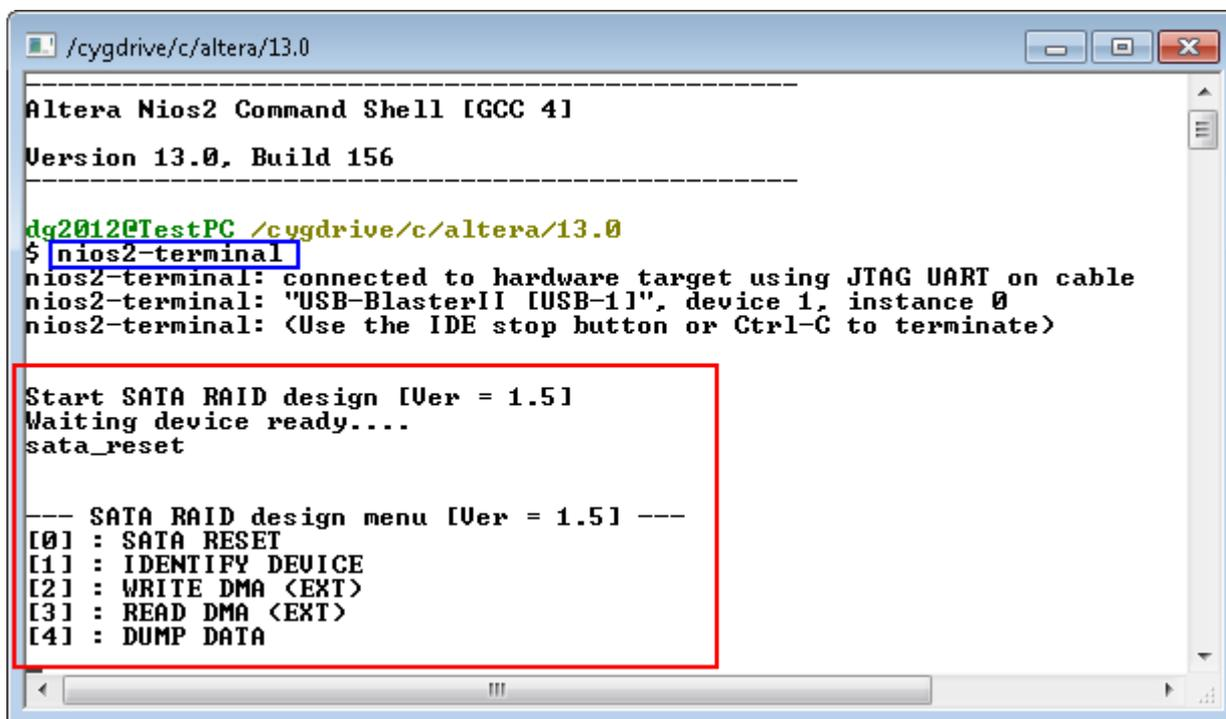

Figure 1-7 Normal operation LED Status
- Check LED status on StratixV GX board. LED0-7 should be turn-on, and TX and RX of HSMA LED should be OFF as shown in Figure 1-7. The description of each LED is shown in Table 1-1.